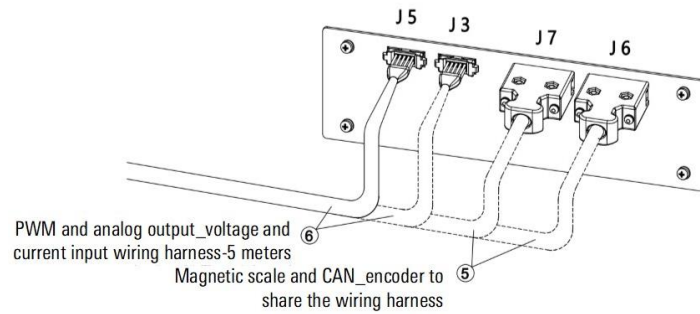

Figure 2-20 MCBS-IEB front view
- Step5. Connect the outside wires of the cabinet according to the functions used, refer to Figure 2-20:
- a) Use PWM output and analog output signals: use ⑥ PWM and analog output\_voltage and current input harness-5 meters coupled to J5;
- b) Use voltage input and current input signals: use ⑥ PWM and analog output\_voltage and current input wiring harness-5 meters coupled to J3;
- c) Use encoder signal: use ⑤ magnetic scale and CAN\_encoder to share the wiring harness coupled to J7;
- d) Using magnetic scale and CAN signal: Use ⑤ magnetic scale and CAN\_encoder to share the wiring harness coupled to J6.